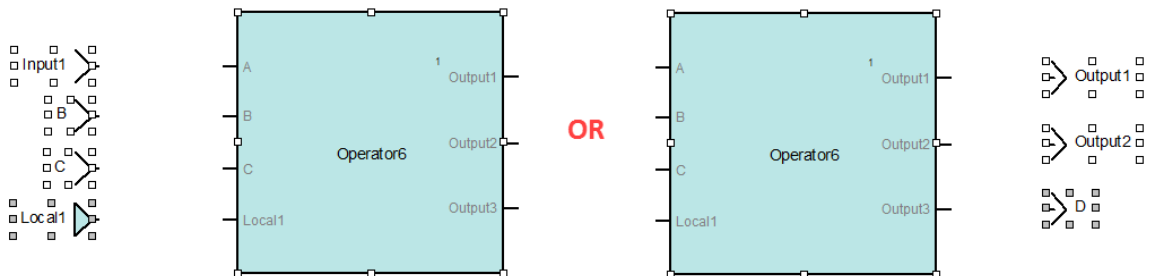

Figure 3.62: Multiselection to connect several inputs/outputs to an operator by name
- 1 Select set of input or output elements to connect as illustrated in Figure 3.62.